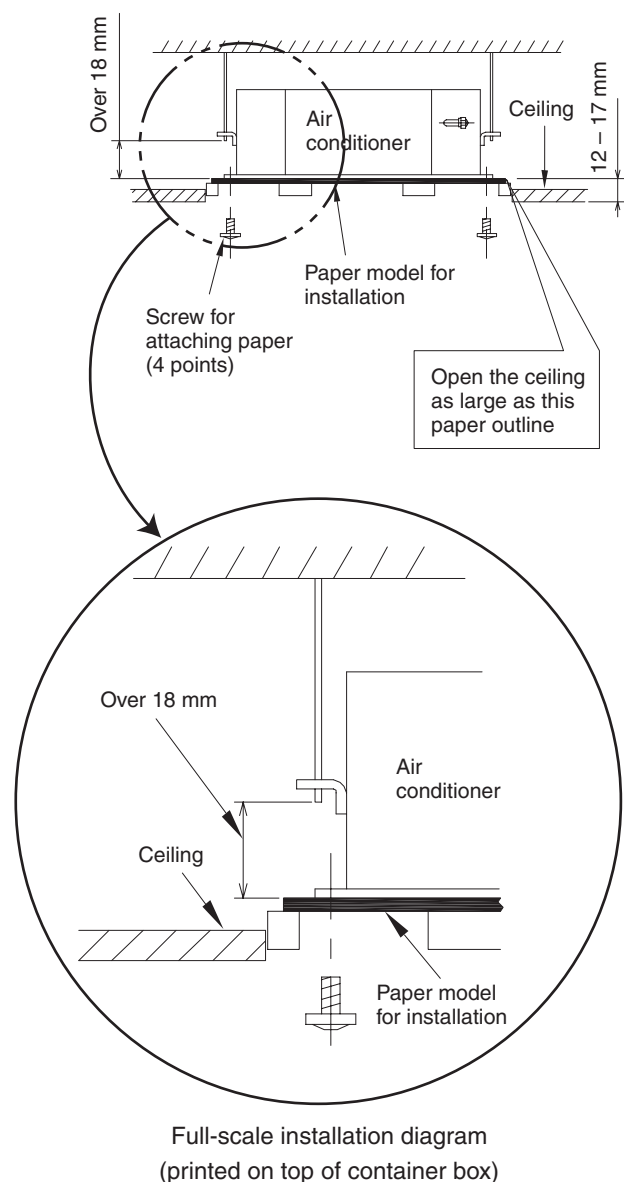

Fig. 2-32
- (1) When placing the unit inside the ceiling, determine the pitch of the suspension bolts using the supplied full-scale installation diagram. (Fig. 2-32)
- (2) The length of suspension bolts must be appropriate for a distance between the bottom of the bolt and the bottom of the unit of more than 18 mm as shown in Fig. 2-32.